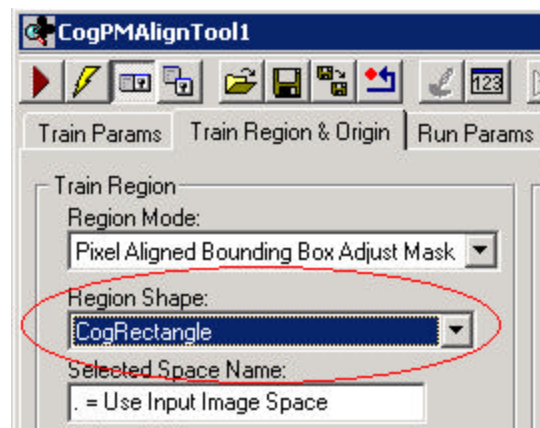

Figure 6. Adjusting the train region to a smaller shape
- ?? **Training Region:** Some Vision Tools like PMAlign and PatInspect require training images. The size of the training region is controlled on the Train Region and Origin tab of the tool's edit control. Whenever possible you should train using a reduced region of the image, rather than training from the entire image. This can greatly reduce the amount of memory used by the tool. See Figure 6 on changing the Train Region shape.